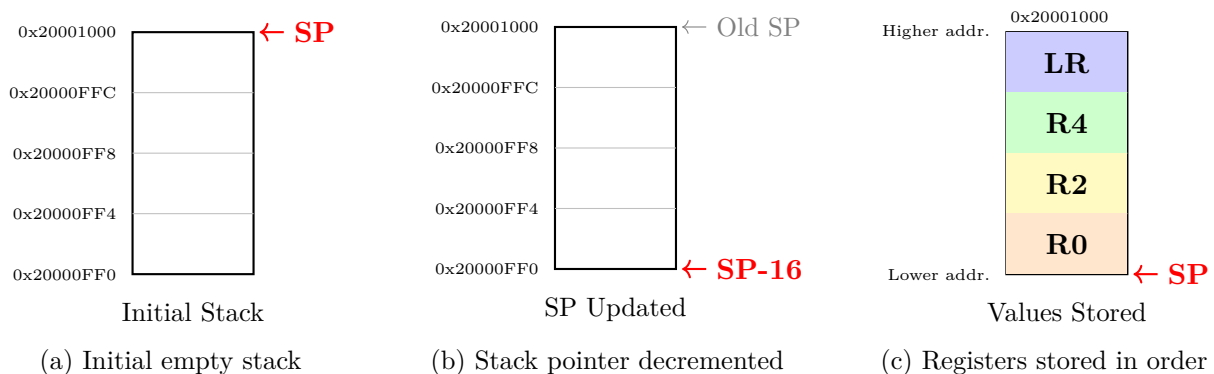

Figure 3.1: Stack operation sequence for `PUSH {R4, R0, R2, LR}`
**Explanation:** Figure 3.1(a) shows the empty stack with SP at the top (highest address). When PUSH executes, the processor **decrements SP by 16 bytes** to reserve space for four registers (Figure 3.1(b)). Finally, in Figure 3.1(c), values are stored according to the rule: the lowest-numbered register (R0) at the lowest address, then R2 and R4, and the highest-numbered (LR) at the highest address. Because the stack grows downward, SP points to the last written word after the operation.